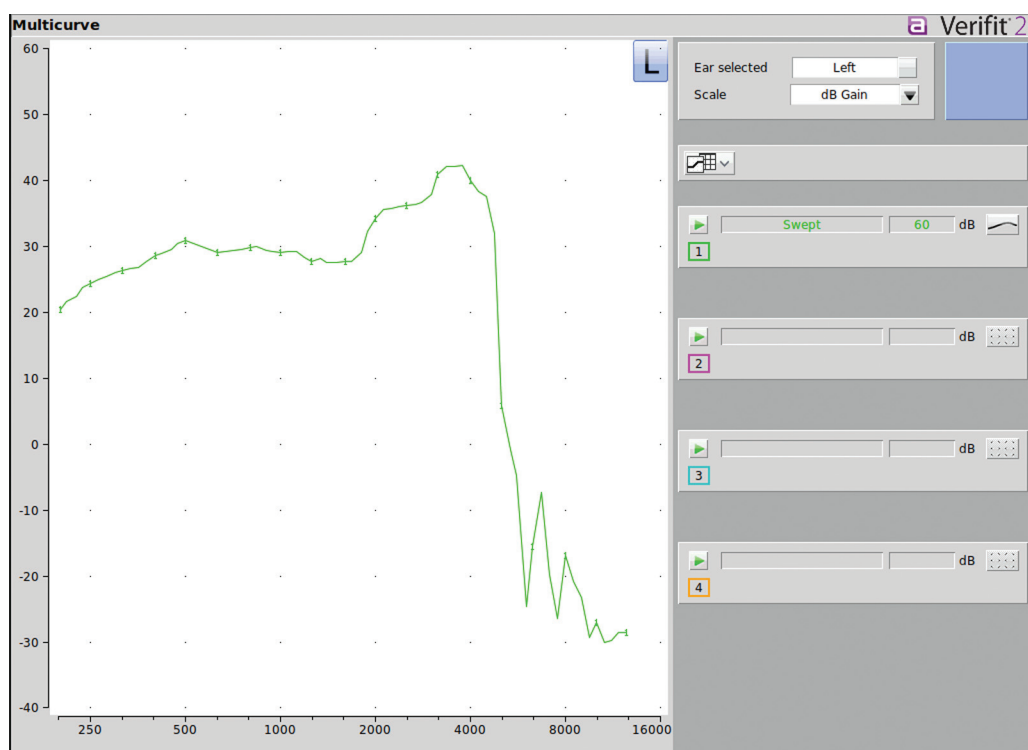

Figure 10 Frequency/Gain response for a 60-dB SPL input signal.
8. Click **the green arrow above 1** to start the test. When the test has started, you can choose the type of stimulus and level (choose a moderate level, e.g., 60 dB). Figure 10 is an example of the measurement you will get if you follow the steps above.
10. Table 2 provides the patient's hearing thresholds as a function of frequency, the gain from the frequency/gain curve that was obtained with a patient's current hearing aid (from Figure 10), and the recommended gain using the 1/3 and 1/2 gain rules. The last column asks whether the hearing aid gain is appropriate based on this hearing loss. To be "appropriate," the measured gain (from the frequency/gain curve) would have to fall at or between the 1/3 and 1/2 gain rule values. In this case, the gain is appropriate at 500, 1,000, 2,000, and 4,000 Hz.